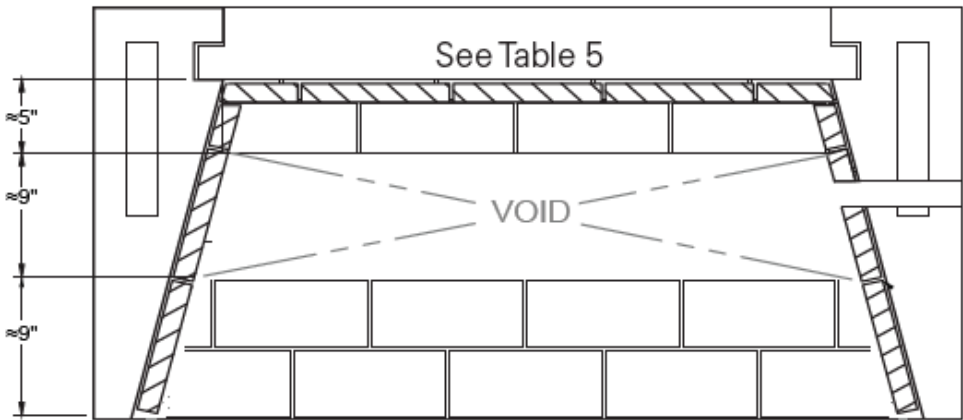

FIGURE 58
- 3) The burner cavity must have a height of 2-1/2”, a depth of 8-3/4”, and the length shall extend the entire length of firebox. (Table 5; Figure 58 & 59)